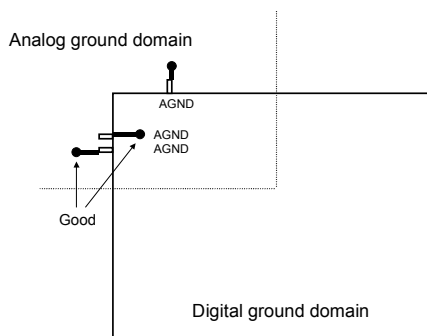
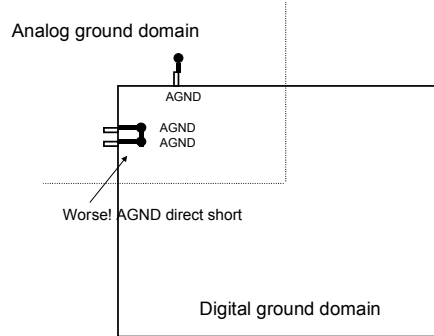

Figure 3-2
Figure 3-3
- All AGND pins (pin 5, 6, 46) could not directly short each other (see Figure 3-3). It must be directly connected to analog ground domain (see Figure 3-2).